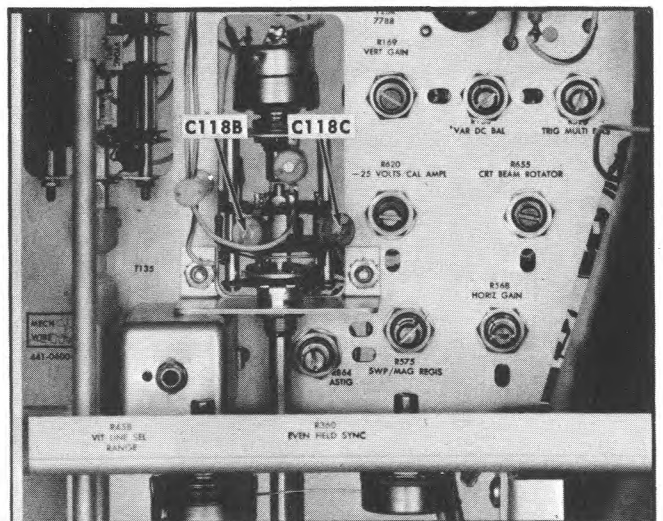

Fig. 6-35. Location of C118B and C118C adjustments.
- e. Adjust C118B (see Fig. 6-35) to obtain flat-frequency response from 500 kHz to 5 MHz within $\pm 1\%$.
- e. Adjust C118C (see Fig. 6-35) to obtain flat-frequency response from 500 kHz to 5 MHz within $\pm 1\%$.